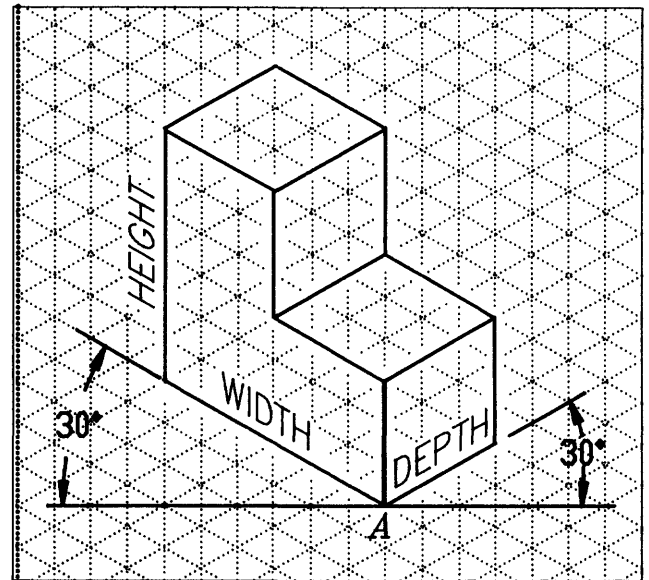
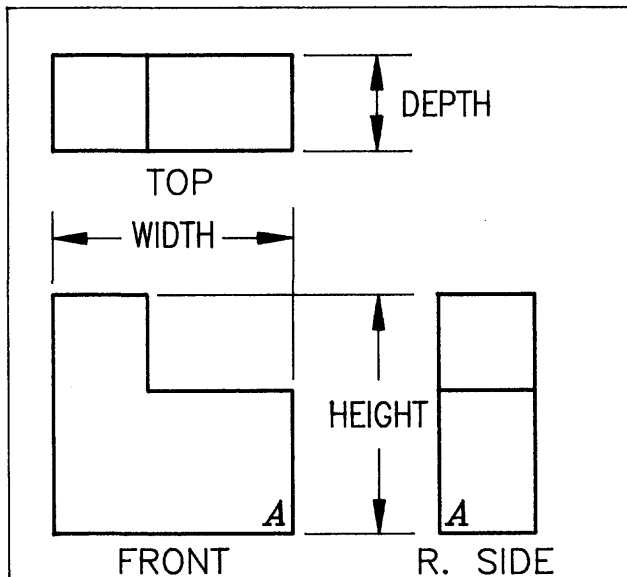
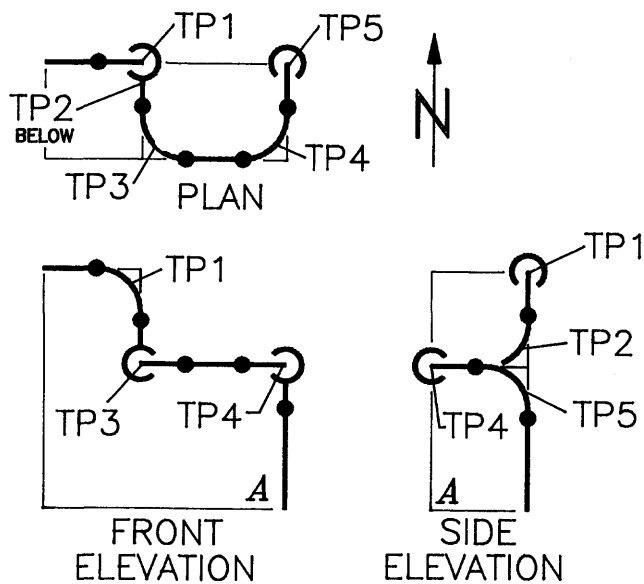
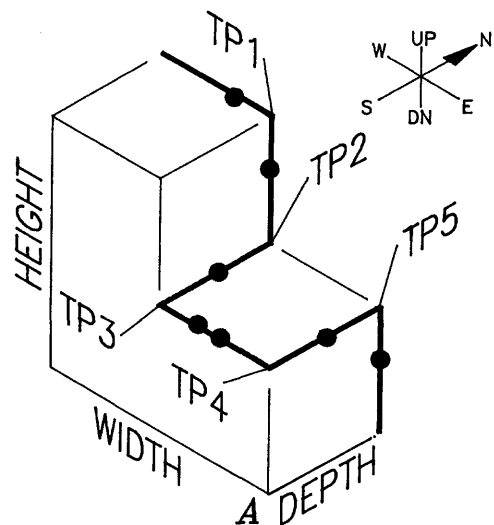

Figure 13-2. Isometric view.
Figure 13-1. Orthographic views.
Figure 13-3. Piping orthographic views.
Figure 13-4. Piping isometric view.
An isometric is a type of three-dimensional drawing known as a pictorial. Isometrics, or *isos* as they are commonly called, are developed using the three primary dimensions of an object: height, width, and depth. Unlike orthographic drawings that represent the height, width, and depth dimensions in separate views (see Figure 13-1), the isometric combines the three dimensions of the object into a single view to provide a pictorial representation (see Figure 13-2). To include the height, width, and depth dimensions in a single view, an isometric must be drawn on axes that measure 30° from the horizontal plane as shown in Figure 13-2.
Similar to the front, top, and right side views in Figure 13-1, piping plans, sections, and elevations offer limited visualization of an object, especially when piping components like fittings, flanges, or valves are incorporated. However, by combining the height, width, and depth dimensions found on plan, section, or elevation views, a single pictorial view can result in a drawing that provides greater clarity of the piping configuration. A comparison of Figure 13-3 with Figure 13-4 shows that a piping isometric with piping symbols is obviously clearer and easier to understand than an orthographic view.
To be successful in drawing isometrics, the pipe drafter must be able to interpret the information conveyed by the drawing symbols for fittings, flanges, or valves used on piping arrangement, section, and elevation drawings and transfer that information to the isometric. Notice in Figures 13-3 and 13-4 that the elbow symbols differ in the orthographic views and in the isometric view. Piping drawing symbols used on plan, section, or elevation views dictate whether a pipe turns left, right, up, or down. When a pipe on a piping orthographic drawing makes a change in direction, that change must also be reflected on the isometric. The point at which the pipe changes direction is referred to as the *turning point* (TP). To correctly draw the isometric representation of a pipe shown on a plan, section, or elevation view, the pipe drafter must be knowledgeable in the use of piping symbols used for orthographic views and the corresponding symbols used for isometric views.
Notice that in Figures 13-1 and 13-2 the height, width, and depth dimensions in the orthographic views are assigned to the isometric view using point **A** as a point of reference. On piping isometrics, establishing a point of reference becomes even more imperative. The complexity of piping configurations requires a point of reference to establish orientation between the orthographic and isometric views. The north arrow is used as this point of reference. Accurate isometric layout is based on the